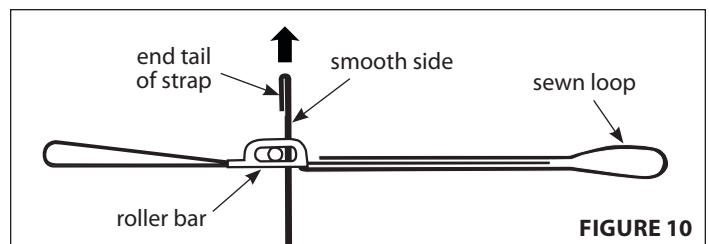

FIGURE 10
2. Feed end tail of strap up through the bottom of the float buckle on the sewn loop side of the roller bar. **SEE FIGURE 10.**